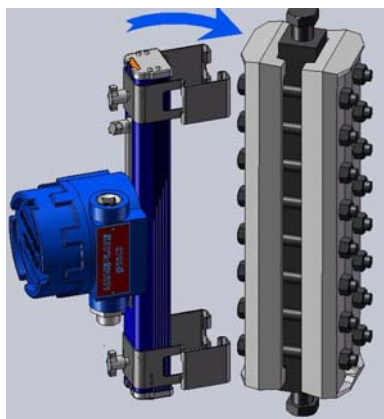
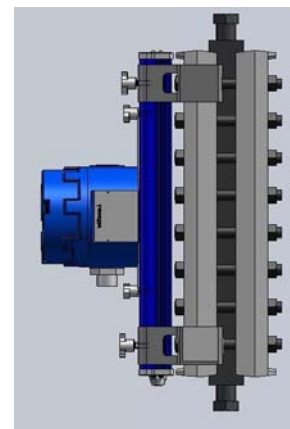

Figure 2
Figure 3
- 2) Align one side of the brackets as shown in Figure 2, so that the clip of the brackets are gripping around the side of the gauge. Roll the entire assembly over until it is flush with the rear flat of the gauge and press until the bracket clips have locked into place as shown in Figure 3.